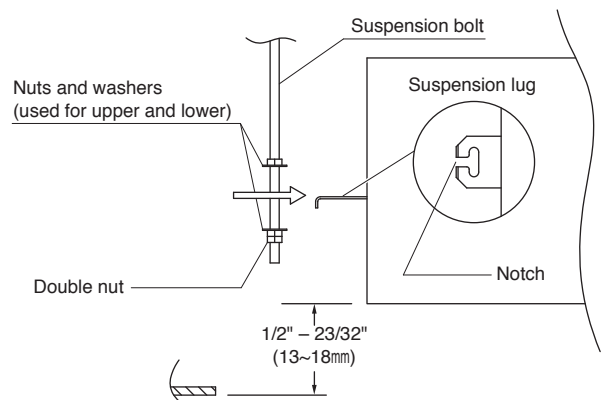

Fig. 6-4
(4) Thread the 3 hexagonal nuts (locally purchased) and 2 supplied washers onto each of the 4 suspension bolts as shown in the diagram. Use 1 nut and 1 washer for the upper side, and 2 nuts and 1 washer for the lower side, so that the unit will not fall off the suspension lugs. (Fig. 6-4)
(5) Adjust so that the distance between the unit and the ceiling bottom is 1/2" (13 mm) to 23/32" (18 mm). Tighten the nuts on the upper side and lower side of the suspension lug. (Fig. 6-4)